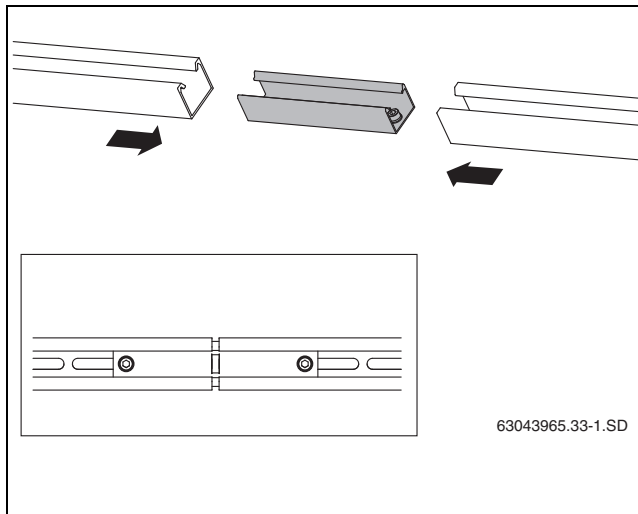

Fig. 27 Connecting profile rails
- Push rail connector (Fig. 27, [1]) as far as it will go into both profile rails (Fig. 27, [2]).
- To lock, tighten both fitted M10 threaded studs (Fig. 27, [3]) in the rail connector using a size 5 Allen key.